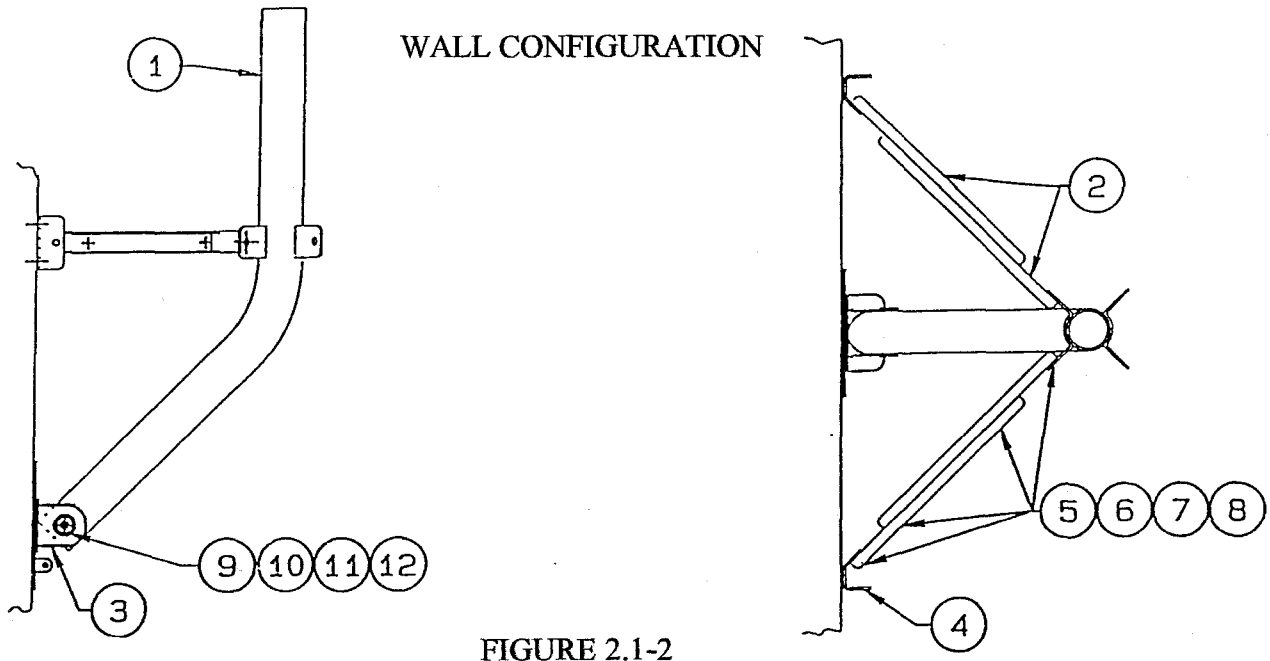

FIGURE 2.1-2
- 2.1.2 For flat and sloped roof installations, attach the leg assemblies to the mast weldment (item# 1), as shown in figure 2.1-2. Attach the leg mounting brackets (item# 4) to the legs with the same 1/2" hardware, (all hardware to be snug-tight only). Assemble the base plate (item# 3) to the mast (item# 1) by inserting the 1-8 x 2.00" bolts (item# 9) from inside the mast pipe and through the base plate. Do not use a washer under the head of the bolt, as the hex head will lock into the curve of the pipe and make it easier to tighten this bolt later. Secure with flatwasher, lockwasher, and nut (items# 10, 11, 12). Place the tripod assembly over the anchor bolts or holes and secure to the roof. Check the mast for verticality and then fully tighten all hardware and anchor bolts.